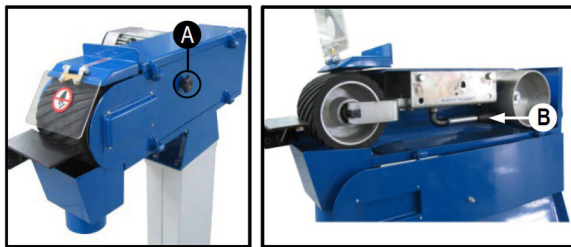

Fig. 5: Sanding belt change
Unscrew the fastening screw (A) Fig. 5 and unfold the side cover including the level grinding surfaces completely. Loosen the tension of the sanding belt by using the tensioning lever (B) Fig.5. Carefully pull off the old sanding belt. Tighten the new sanding belt and align it. Finally, tighten the sanding belt over the tension lever and close the side cover.